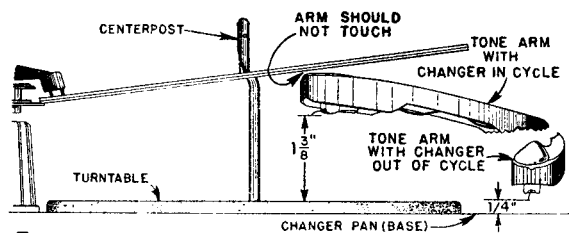

Figure 6. Checking Tone Arm Height.
This record changer is so designed that the tone arm will clear the bottom record of a stack to be played if the needle is $\frac{1}{4}$ " above the changer pan when the changer is not in change cycle and $1\frac{3}{8}$ " above the turntable during change cycle. See Figure 6. With proper tone arm height setting, the tone arm will lift high enough during change cycle to clear a complete stack of records of any type on the turntable. This stack may consist of as many records as specified on page 1. Make this adjustment by placing the size and speed selector knob (26) in the "78-10" position, check